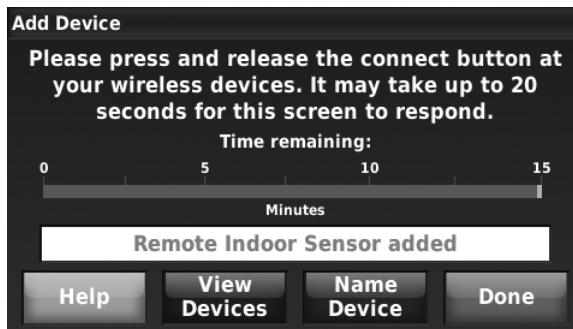

Fig. 29.
2. If you are installing more than 1 wireless indoor sensor, give each sensor a name as you install it. Press Name Device, as shown in Fig. 29.